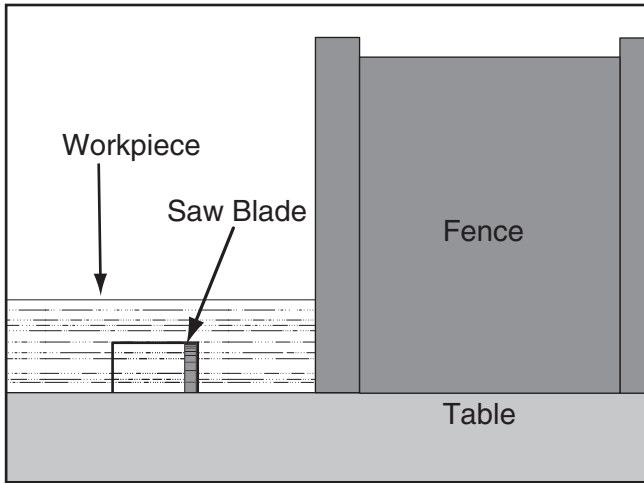

Figure 48. Single-blade dado first cut.
- If dadoing the length of a workpiece, align the blade to cut one of the dado sides as shown in **Figure 48**.